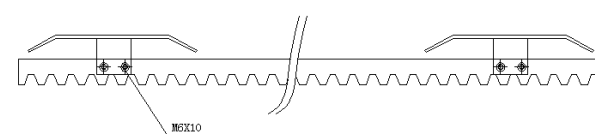

Fig.6
- Install the limit block as shown in Fig.5 and Fig.6. The spring limit switch and blocks are used to control the position of the gate.
- Install the limit block as shown in Fig.5 and Fig.6. The magnetic of limit switch and blocks are used to control the position of the gate.